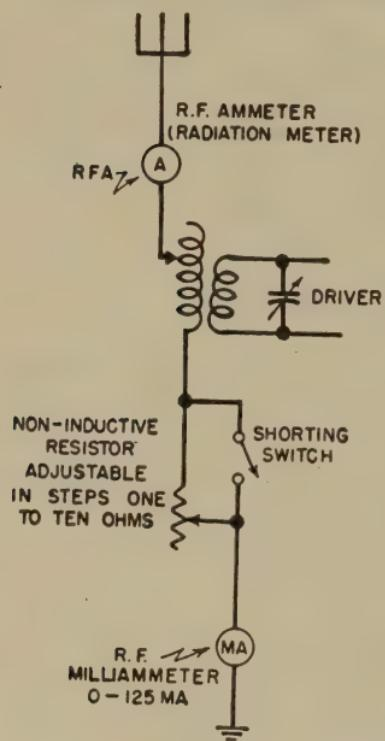

FIG. 4-12.—Circuit for measuring antenna resistance.
**Ans.** Figure 4.12 illustrates the circuit arrangements of the apparatus used for measuring antenna resistance.